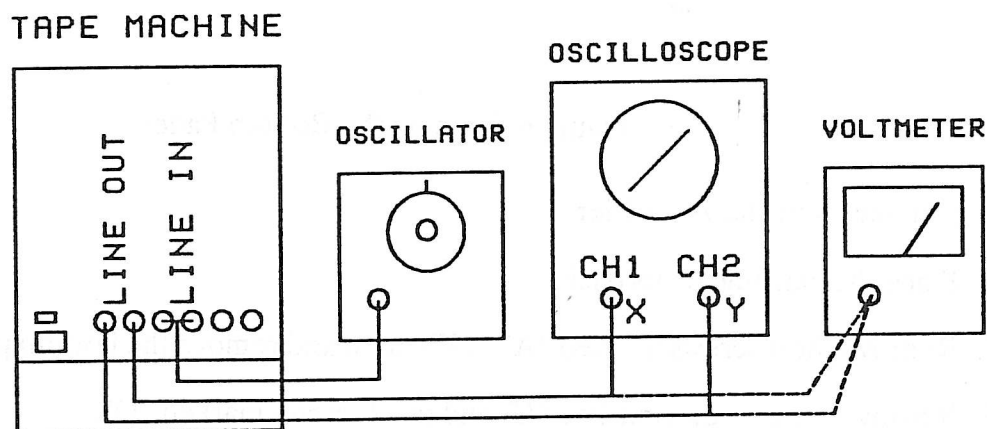
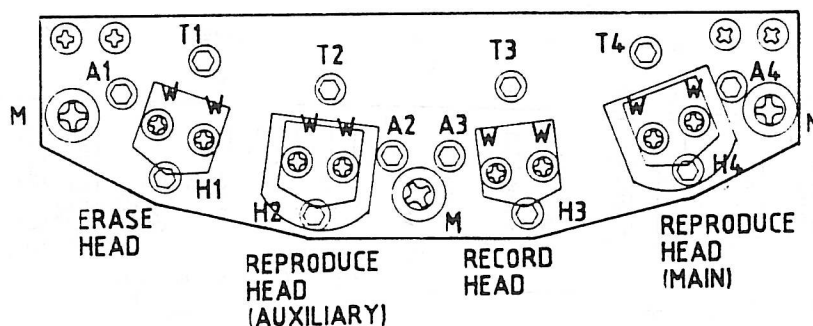

Figure 7 Azimuth Alignment Measurement Method
Figure 8 Head Assembly Adjustments
7. Locate and play the 1 kHz portion of the Reproduce Alignment tape and adjust the screw marked A4 in Figure 8, until the pattern on the oscilloscope becomes a straight line at a 45 degree angle as shown in Figure 7.
8. Play each increasing frequency section of the Reproduce Alignment tape (2 kHz, 4 kHz, 8 kHz, 10 kHz, 12.5 kHz, 16 kHz, and 20 kHz) and adjust the screw marked A4 until the pattern on the oscilloscope becomes a straight line at a 45 degree angle, at each frequency, as shown in Figure 7.
6. Adjust the screw marked A3 in Figure 7 until the pattern on the oscilloscope display becomes a straight line at a 45 degree angle as shown in Figure 8.